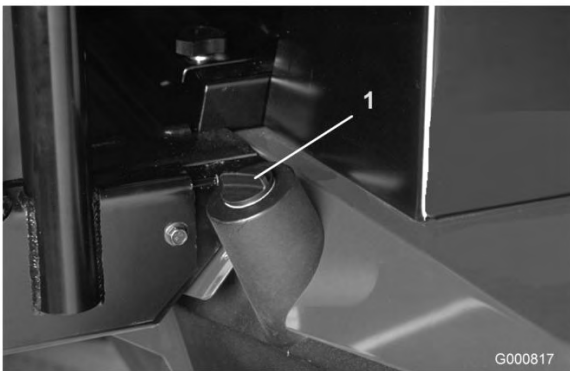

Figure 36
2. Clean area around filler neck and cap of hydraulic tank (Figure 36). Remove cap from filler neck.